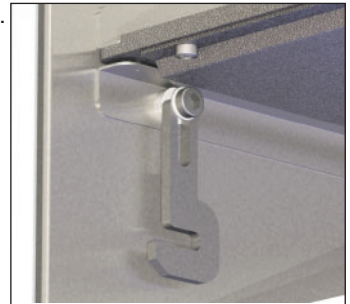

Fig. 24 Thermoshelf lock released
2. Turn the locking hook downwards (Fig. 24).